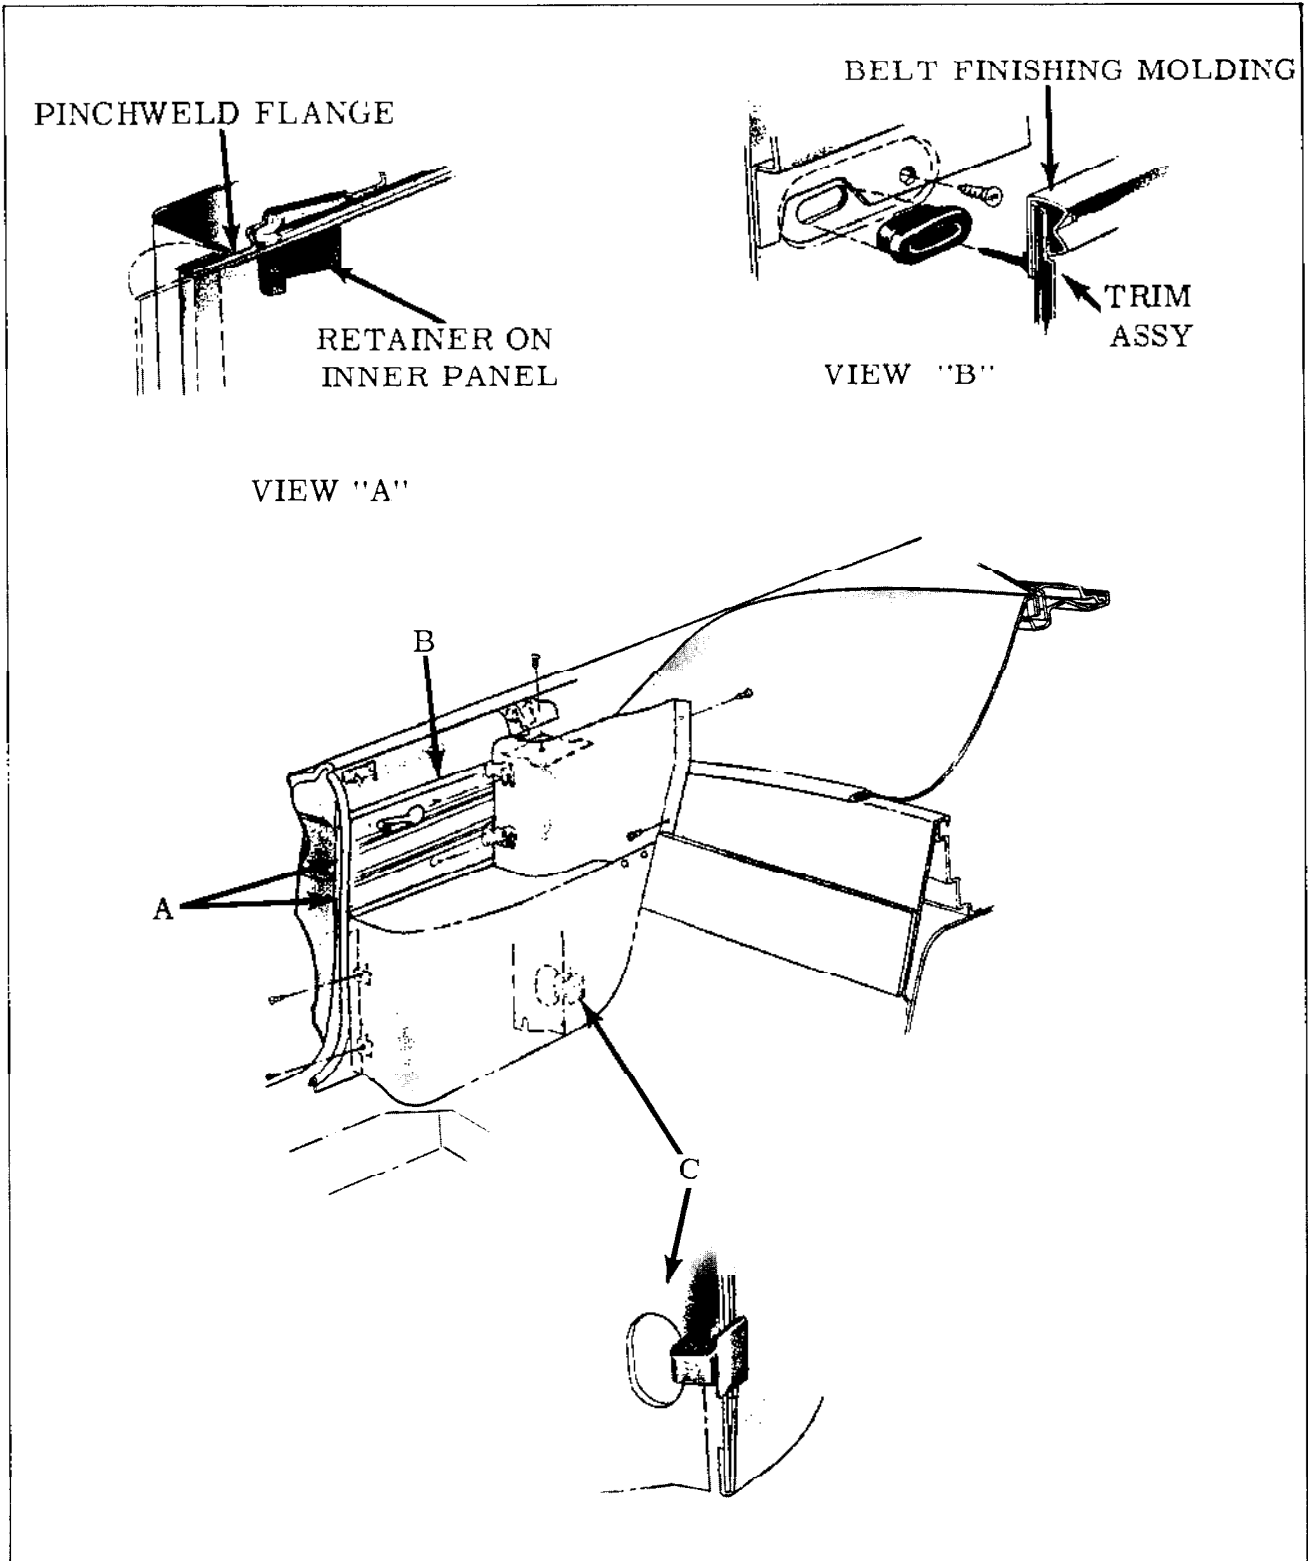

Fig. 15-25 Rear Quarter Trim Assembly ("67" Style)
2. Remove screws securing folding top compartment side trim panel assembly. (Fig. 15-25) Disengage side trim panel assembly retainer from folding top compartment brace.
("C", Fig. 15-25) Disconnect electrical leads, where present, and remove side trim panel assembly.
Removing Tool J-6335, disengage trim assembly retaining nails from inner panel along upper edge of trim assembly. (View "B", Fig. 15-25)
Fig. 15-25) Pivot rear edge of trim assembly forward, using forward edge, which overlaps pinchweld and is cemented to pinchweld flange outboard surface, as a hinge (View "A", Fig. 15-25)